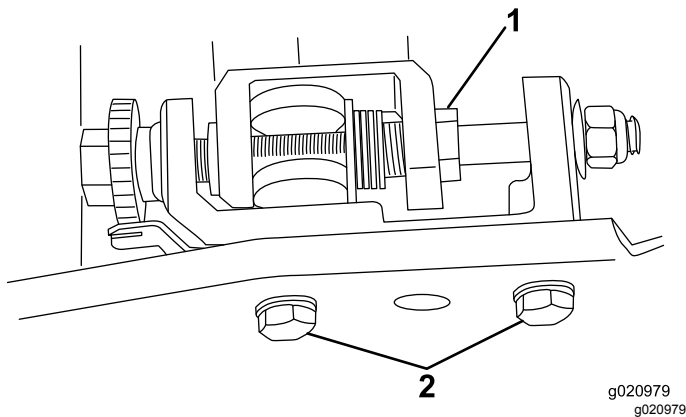

Figure 4
- A. Using a 7/8 inch standard wrench, loosen the spring tension screws on the right and left bedbar adjusters (Figure 4).
- C. Remove the 2 bolts and washers securing left, bedbar-adjuster frame to the side plate (Figure 4).
16. If you are installing this kit on a **Greensmaster 800 mower** with a serial number prior to 230999999, a **Greensmaster 1000 mower** with a serial number prior to 229999999, or a **Greensmaster 1600 mower** with a serial number prior to 260001401, install the left, bedbar-adjuster frame to the side plate with the bolts and washers that you removed previously (Figure 4).